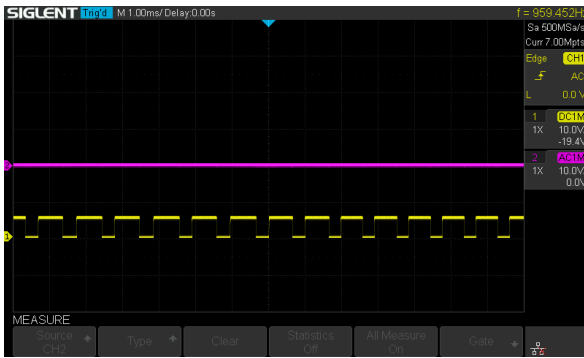

Figure 6 - Single pulse train
3. One flat trace and one pulse train (Figure 6):